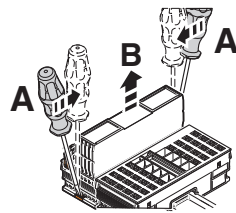
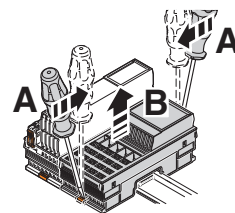

Fig. 7-11
Fig. 7-12
- Insert a suitable tool (e.g., bladed screwdriver) in the upper **and** lower snap-in mechanism (base latches) of the module one after the other and unlock it (Fig. 7-11, Fig. 7-12, A). The base latches are locked in place in the open position.
- Remove the electronics module **perpendicular** to the DIN rail (Fig. 7-11, Fig. 7-12, B). The base latches return to the idle position again.